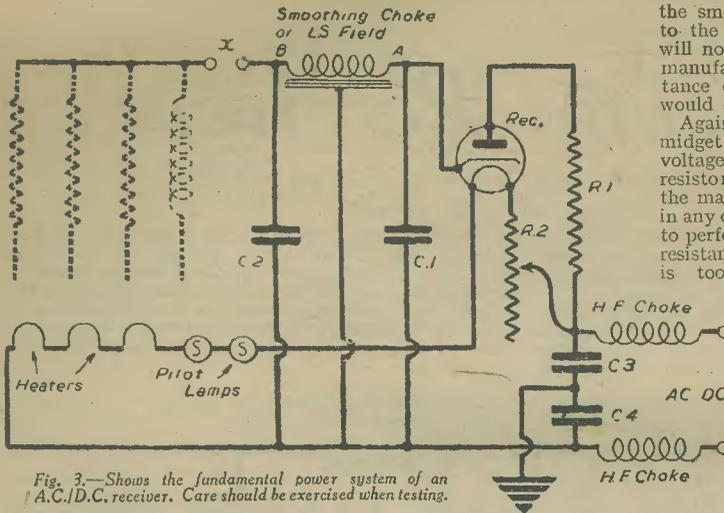

Fig. 3.—Shows the fundamental power system of an A.C./D.C. receiver. Care should be exercised when testing.
The power circuit of a typical A.C./D.C. receiver (Fig. 3) is usually similar, so far as the smoothing section is concerned, to the A.C. arrangements, therefore preceding remarks regarding testing rectifier apply also to Fig. 3. Also, if C₁ or C₂ develops a short-circuit, it invariably destroys the rectifying valve, so this should be checked. If, on the other hand, all is in order, it only remains to check the circuit from the anode of the rectifier through to the appropriate mains input lead. R₁ is a current limiting resistor which is often included; a usual value being approximately 100 ohms.
D.C. receivers have similar smoothing arrangements to Fig. 3 and there is, of course, no rectifier to bother about. This fact, however, may be a worry in itself, because if at any time we are required to service a D.C. set on A.C. mains it will be necessary to provide rectification for the H.T. supply. So for this reason it is a good idea to keep handy a Westinghouse metal rectifier type H.T.10, which can be temporarily connected to the D.C. set. It should be wired between the smoothing choke and mains so that rectifier negative goes to mains and rectifier positive to choke.